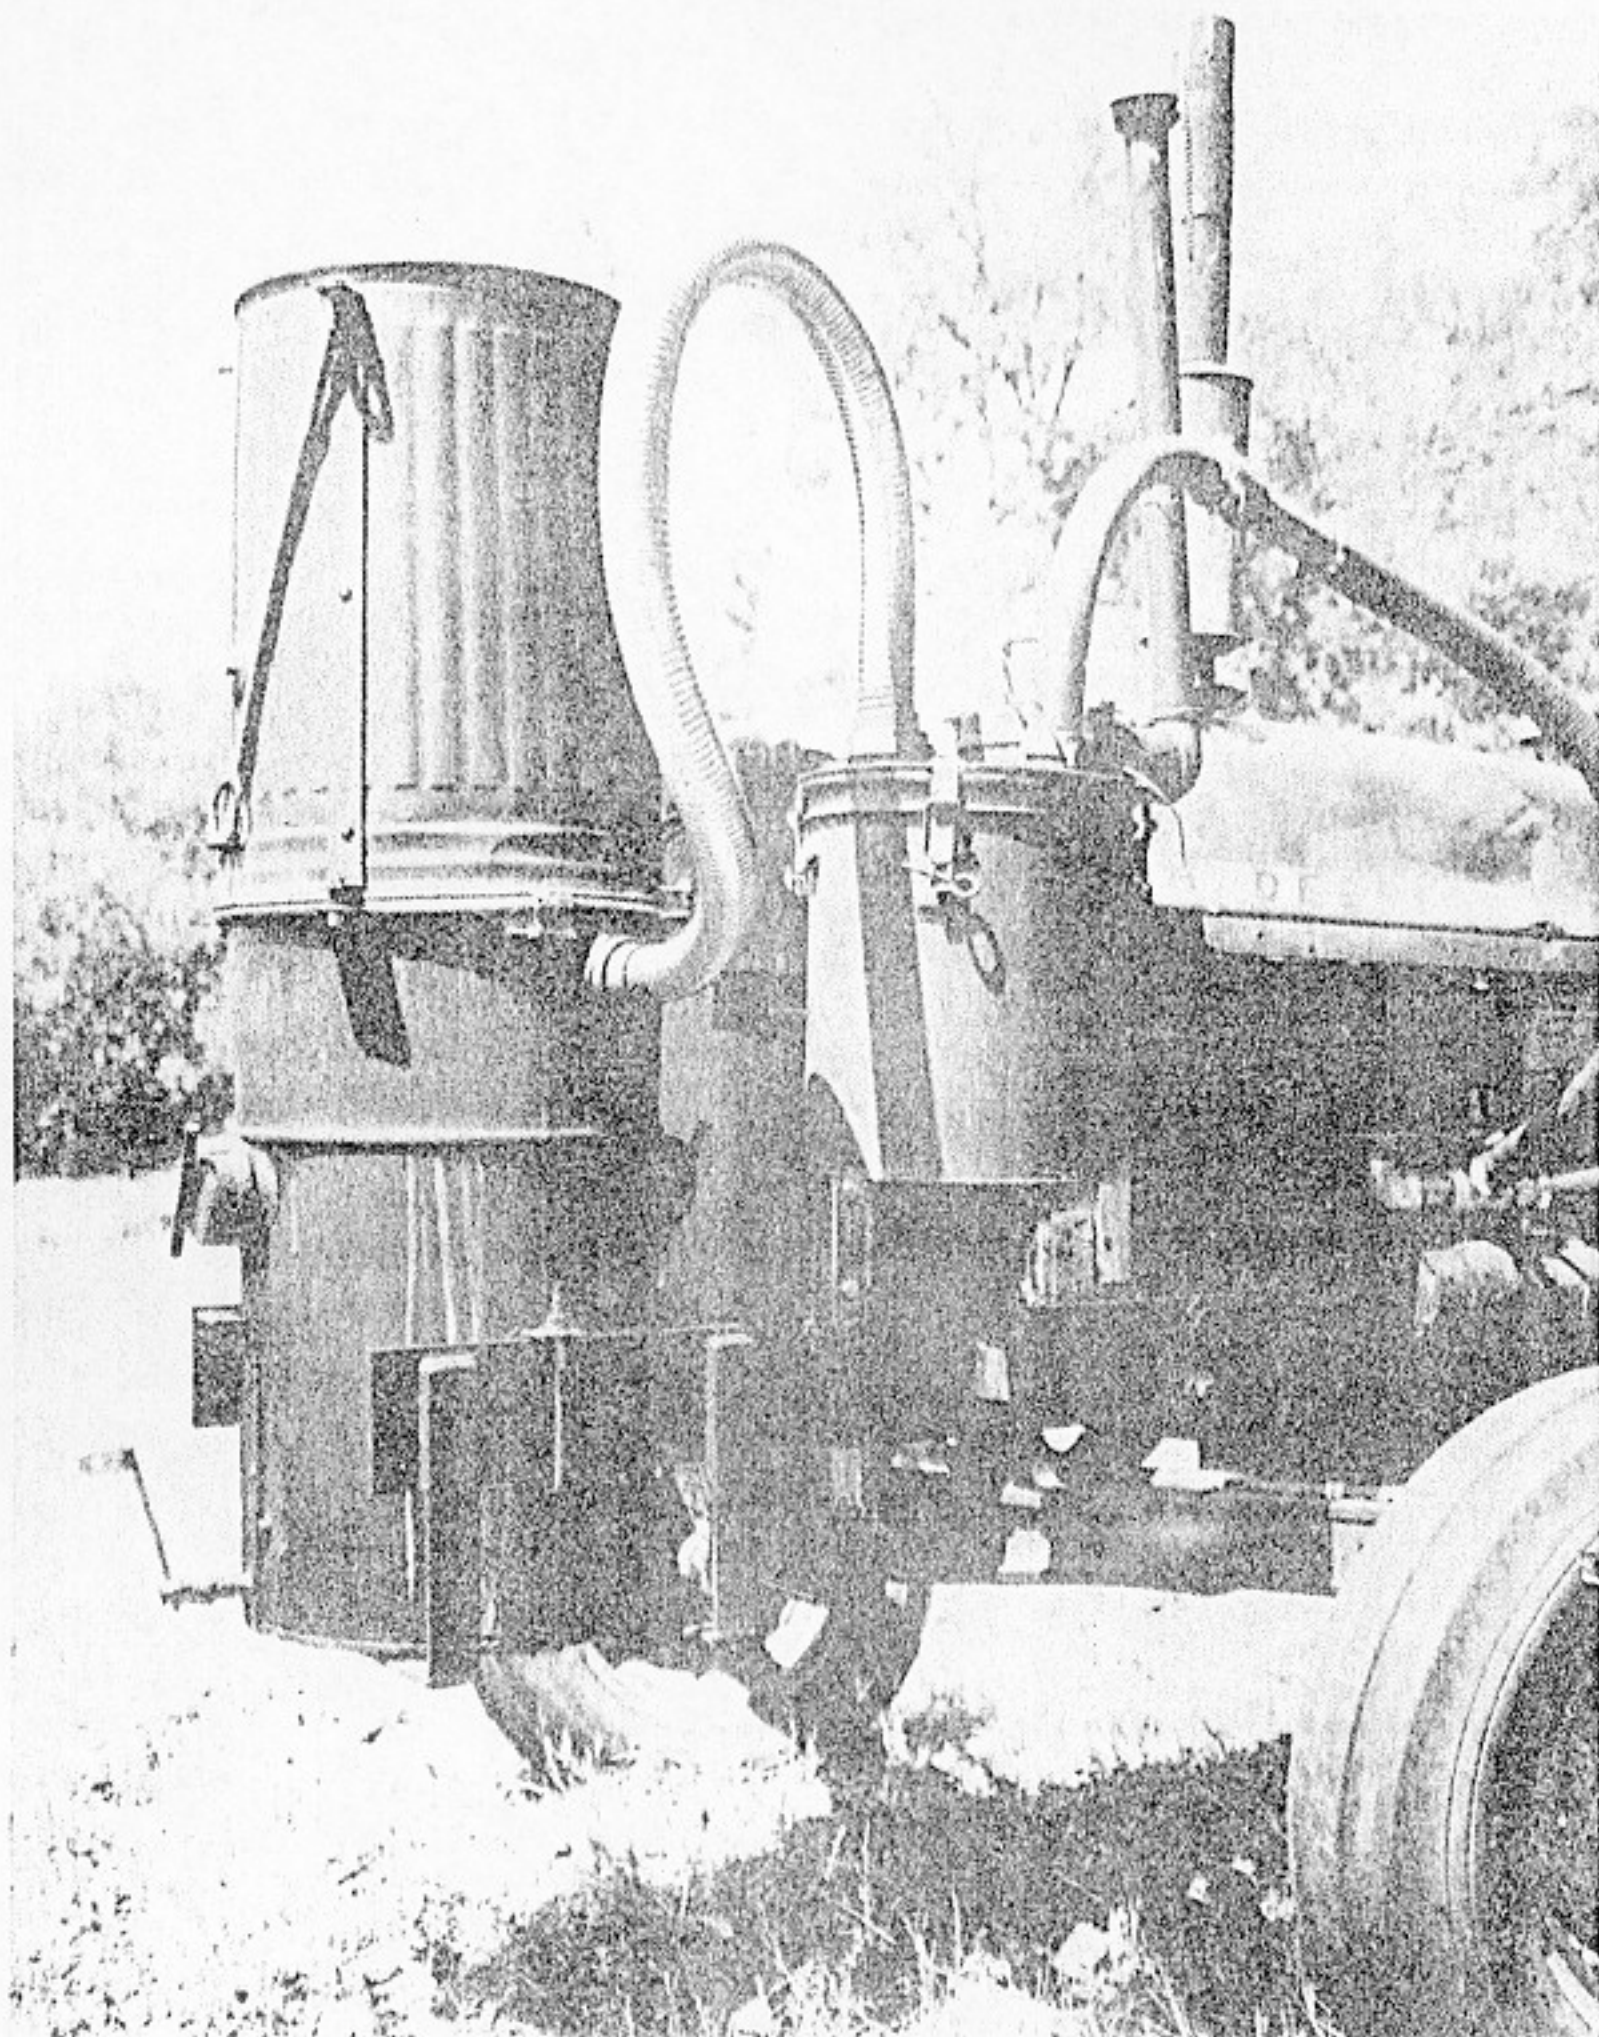

Fig. 2-1. The prototype wood gas generator unit mounted onto a tractor.
The prototype gasifier unit described in the following text was actually constructed and field tested on a gasoline-engine farm tractor (a 35-hp, John Deere 1010 Special); see Fig. 2-1. The unit operated very well, and on par with the European, World War II designs, but it has not had the test of time nor the millions of operating hours like the older Imbert design. This new stratified design was developed for the construction of simple, inexpensive emergency wood gas generator units. The prototype design below should be considered to be the absolute minimum in regard to materials, piping and filter arrangement, and carburetor system connections.
21. The connecting pipe (Item 29A) between the gasifier unit and the filter unit should be attached to the gasifier housing drum (Item 3A) at a point 6 in. below the top of the drum. This pipe must be a minimum of 2-in. in diameter and should be at least 6 ft long for cooling purposes. At least one of the ends of this pipe must be removable for cleaning and maintenance. On this prototype unit, an airtight electrical conduit connector was used; this connection is visible in Fig. 2-1. Many similar plumbing devices are available and can be used if they are suitable for operation at 400° F and above. The pipe can also be welded or brazed directly to the housing drum.
10. Attach the blower (Item 7B) to the filter container lid (Item 6B). On the prototype gasifier illustrated in this report, a heater blower from a Volkswagen automobile was used. Connections for a vertical extension tube (Item 8B) will have to be fabricated as shown in Fig. 2-19. A closing cap (Item 9B) is required for the blower exhaust tube. A plumbing cap of steel or plastic with a close fit can be used or fabricated to fit. The vertical extension and the closing cap are visible in Fig. 2-1.